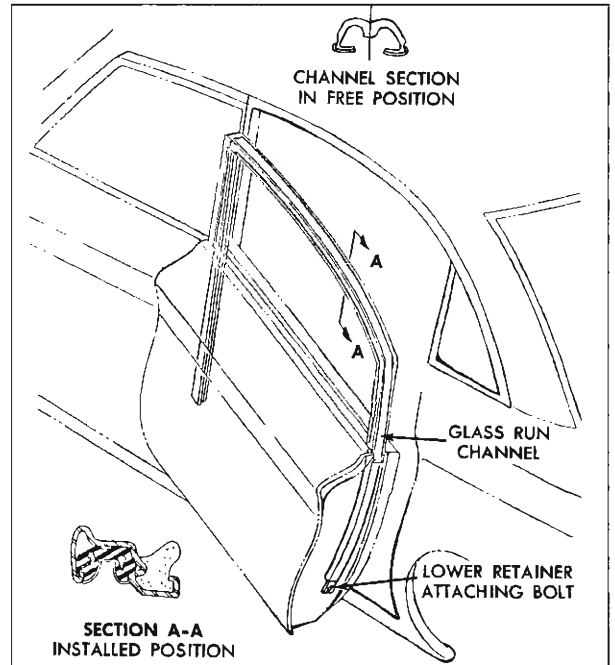

Fig. 12-33 Glass Run Channel Assembly
3. With finger pressure, squeeze run channel together at rear end and gently pull run channel out of rear door upper frame (see Fig. 12-33).